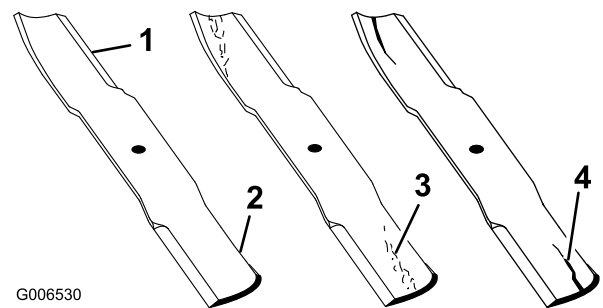

Figure 91
1. Inspect the cutting edges (Figure 91). If the edges are not sharp or have nicks, remove and sharpen the blades. Refer to Sharpening the Blades.
2. Inspect the blades, especially the curved area (Figure 91). If you notice any damage, wear, or a slot forming in this area (Figure 91), immediately install a new blade.